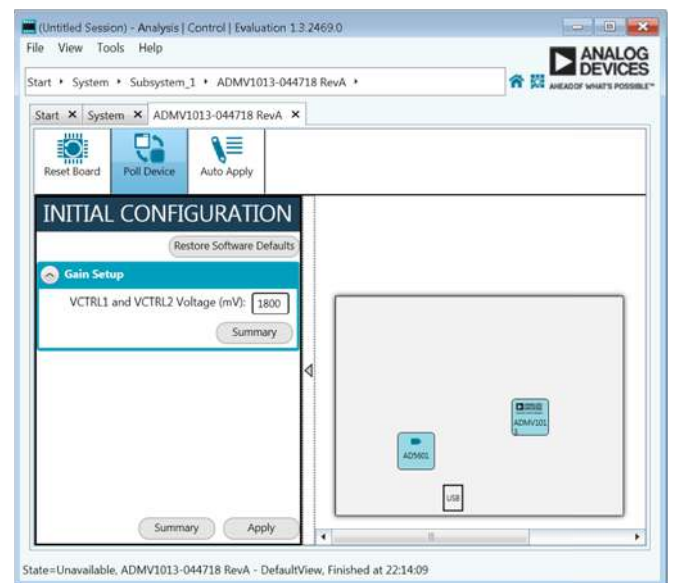
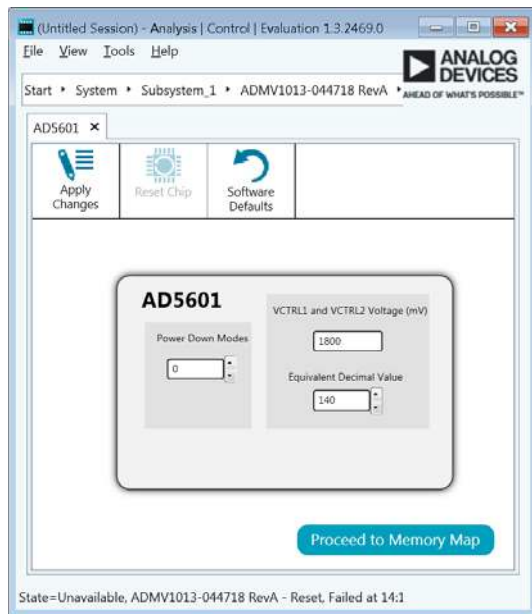

Figure 12. Initial Configuration for the Gain Setup and Board Plugin View
Figure 16. AD5601 nanoDAC User Interface
5. When the ADMV1013-EVALZ plugin is double clicked, the **ADMV1013-044718 RevA** tab shown in Figure 12 opens. On the left side of the window, open the **INITIAL CONFIGURATION** section, click **Gain Setup**, and enter the  $V_{CTRL}$  in the **VCTRL1 and VCTRL2 Voltage (mV)** box. Note that 1800 mV is the highest gain setting for the device.
The ADMV1013-EVALZ evaluation board comes with the AD5601 nanoDAC. The AD5601 nanoDAC sets the  $V_{CTRL}$  voltage for the VCTRL1 and VCTRL2 pins of the ADMV1013. When the ADMV1013 plugin opens, enter the  $V_{CTRL}$  voltage in the **VCTRL1 and VCTRL2 Voltage (mV)** box in the **INITIAL CONFIGURATION** section to set the voltage (see Figure 12). Note that 1800 mV is the highest gain setting for the devices.
When using an external power supply for the  $V_{CTRL}$  voltage, use the AD5601 nanoDAC plugin to change the voltage or power down the AD5601 nanoDAC. To open the AD5601 nanoDAC plugin, double click the AD5601 button in the **ADMV1013-044718 RevA** tab (see Figure 12). Figure 16 shows the AD5601 nanoDAC user interface. The user interface contains the **Power Down Modes** box, the **VCTRL1 and VCTRL2 Voltage (mV)** box, and the **Equivalent Decimal Value** box.
After making any changes to the voltage or to the power-down mode, click **Apply Changes** (see Figure 16). To allow the changes to take place automatically, select **Auto Apply** in the **ADMV1013-044718 RevA** tab. There is no need to click **Apply Changes** after selecting **Auto Apply**.